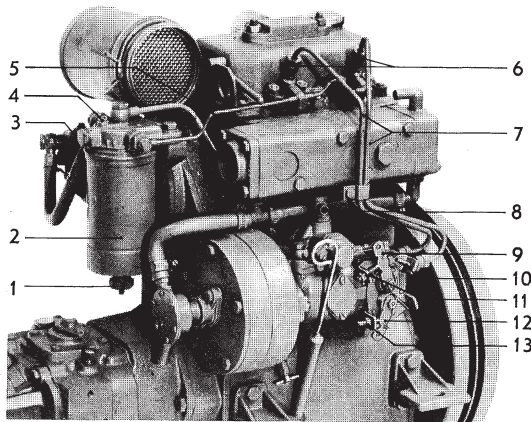

Fig. 20. Fuel system
Change the fine filter after every 100 hours running, or at least once each season. Thoroughly clean the whole of the outside of the filter body (see 2, Fig. 20). Screw loose the filter container by turning the hex head at the bottom of the container. The fine filter with container is of the throw-away type and for this reason the old filter should be scrapped and a new one fitted.
1. Open the vent screw on the fine filter, 4, Fig. 20.